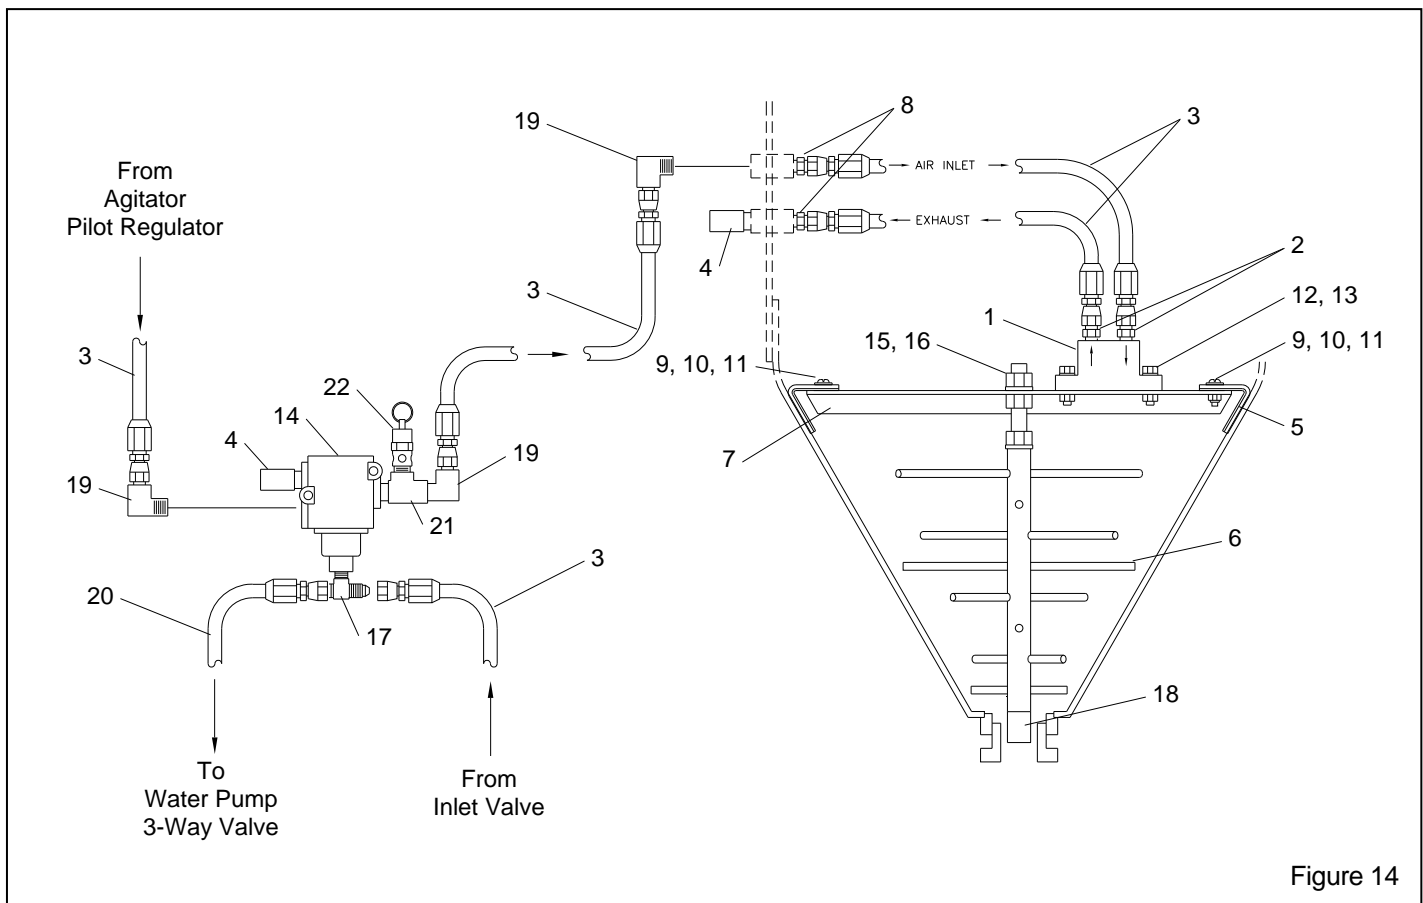

Figure 14
8.7 Agitator Schematic, Figure 14